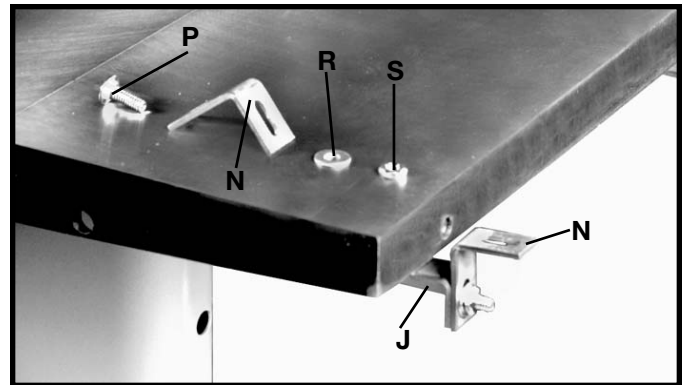

Fig. 45
9. Assemble angle brackets (N) Fig. 45, onto three Z-brackets (J), one of which is shown, place a flat washer (R) onto the 1/4-20 x 3/4" carriage bolt (P), insert the carriage bolt through the angle bracket (N), and the Z bracket (J), and thread the 1/4-20 hex nut (S) onto the carriage bolt.
NOTE: The longer leg of angle brackets (N) Fig. 45, must be secured to Z-brackets (J).